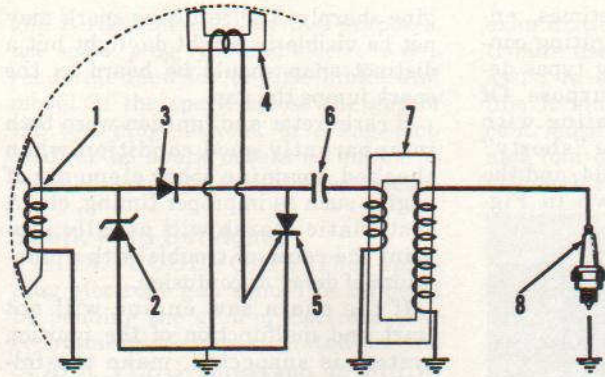

Fig. CS30—Schematic diagram of a simple Capacitor Discharge "Solid State" ignition system.
Fig. CS30 shows a circuit diagram of a typical capacitor discharge, breakerless ignition system using permanent flywheel magnets as the energy source. The magnets pass by the input generating coil (1) to charge the capacitor (6), then by the trigger coil (4) to open the gate and permit the discharge pulse to enter the pulse transformer (7) and generate the spark which fires the plug. Only half of the generated current passes through diode (3) to charge the capacitor. Reverse current is blocked by diode (3)